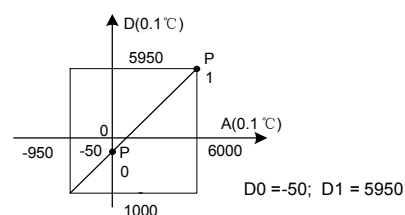
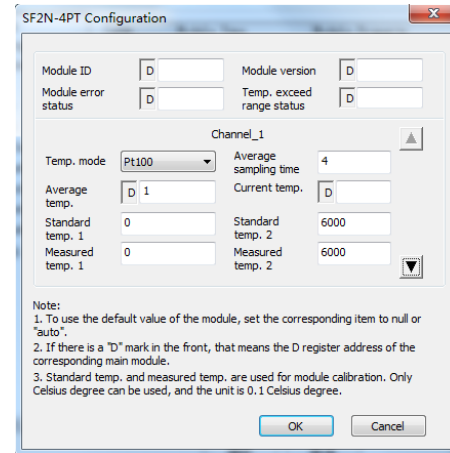
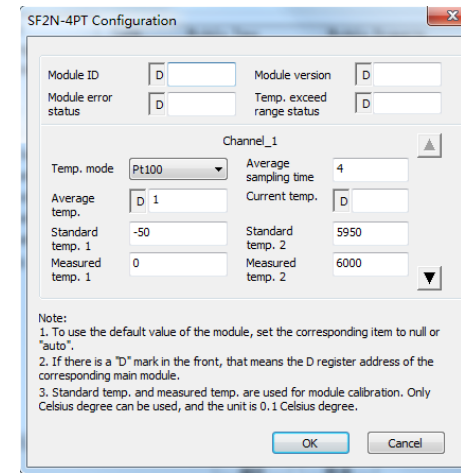

Figure 3-3 Change characteristic
Figure 4-1 Setting CH1
Figure 4-4 Changing characteristic
11. BFM#4094: module software version, displayed automatically as **Module Version** in **SF2N-4PT Configuration** dialogue box of the host software, as shown in Figure 4-1.
You can change the characteristics by changing D0 and D1. The setting range of D0 is -1000 ~ +1000 (0.1°C); D1, 5000~7000 (0.1°C). If the setting is outside this range, SF2N-4PT will not accept it, but maintain the original valid setting. Figure 3-3 provides for your reference an example of characteristics adjustment when the measured value is 5°C (41°F) higher the actual value.
Example: The SF2N-4PT module address is 0. Connect CH1 to Pt100 thermal resistance to output Celsius data, CH2 to Cu100 thermal resistance to output Celsius data, and CH3 to Cu50 to output Fahrenheit data and close CH4. Set the average sampling times to 4, and use data registers D1, D2 and D3 to receive the average value. See Figure 4-1 ~ Figure 4-4 for the setting method. For further details, see *SF2N Series PLC Programming Manual*.
Example: The SF2N-4PT module address is 0. Connect CH1 to Pt100 thermal resistance to output Celsius data, CH2 to Cu100 thermal resistance to output Celsius data, CH3 to Cu50 to output Fahrenheit data and close CH4. They all have the characteristics shown in Figure 3-3 (the SF2N-4PT measured temperature is 5°C/41°F higher than the actual one). In this case, CH1, 2 and 3 will output respectively 6000, 1200 and 2480 at the actual measured temperature of 600°C, 120°C and 248°F. Use data registers D1, D2 and D3 to receive the average value. The channel characteristic adjusting method is shown in Figure 4-4. Note that the unit is Celsius, and the adjusting range is within ±1000 (±100°C).